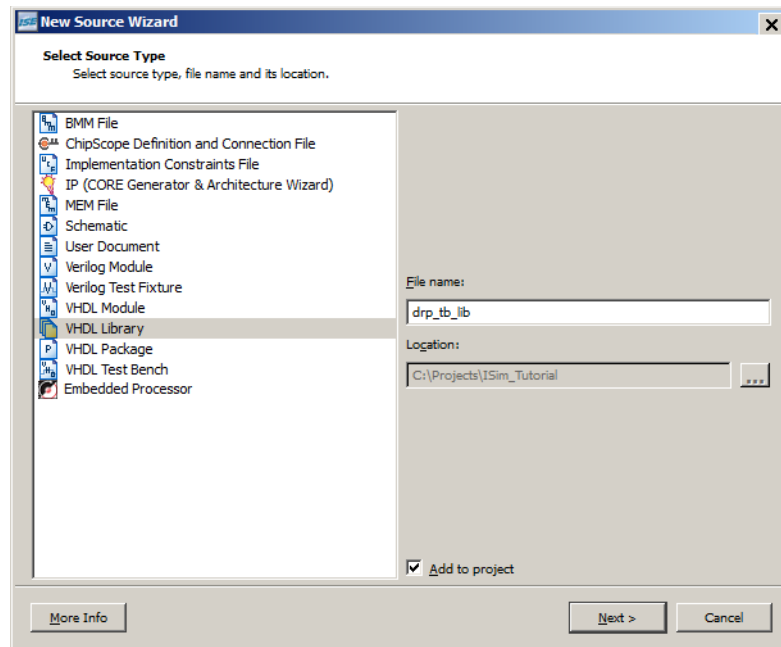

Figure 2-4: Select Source Type
3. Type `drp_tb_lib` for the VHDL library name. (Refer to Figure 2-4).